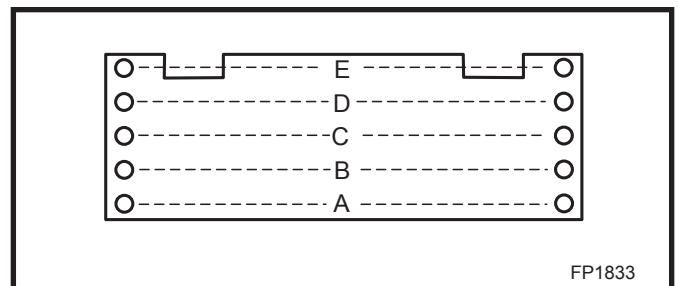

Fig. 14 Deflector holes.
support to the back of the fireplace and drop the deflector down over the air inlet ports. There are five (5) holes on each side of the deflector. For extended vent runs, hole 'C' works the best. (Fig. 14) This is a guide. It may be necessary to adjust the deflector in a different hole location depending on your installation. Be sure there is no lifting or ghosting of the flame.